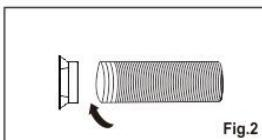

Fig.2
1. Extend either side of the hose (Fig.1) and screw the hose inlet (Fig.2).